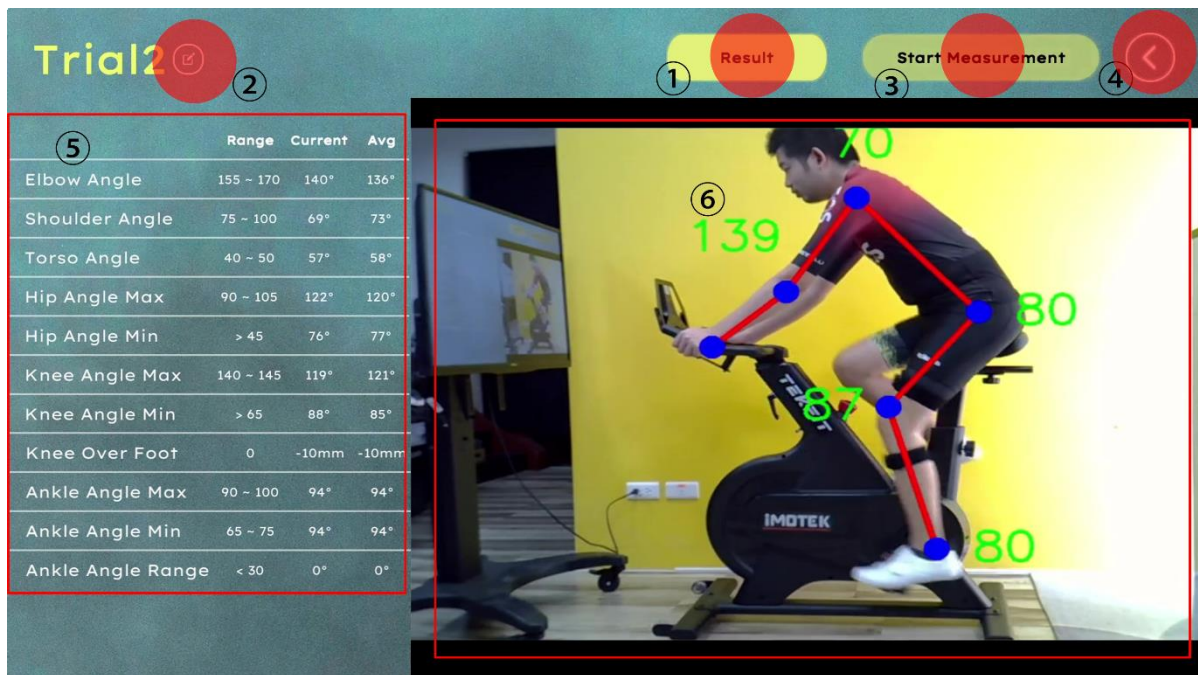

Figure 3.8.10 Real-time view -Bike Fit mode
Step 7: Press "Start Measurement" to begin (Figure 3.8.10). The subject should focus on cycling. The screen will display the pedal trajectory in real-time, and there is no time limit for the measurement duration. To finish the measurement, press the same button again.